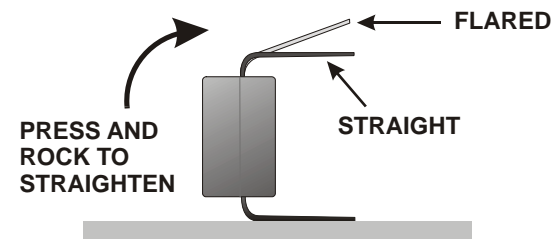

Figure 5. Straightening IC Pins.
Test fit RP1 between RP2 and RP3 and just below the outline for DS1 on the circuit board. It is normal for the pins of a DIP package to be slightly flared so they do not easily fit into the solder pad holes. If necessary, place RP1 so that an entire row of pins is against a smooth surface and straighten the pins as shown in Figure 5.
- Test-fit U3 to see if the pins line up with the holes in the solder pads on the board. If needed, straighten the pins like you did for resistor pack RP5 (see Figure 5).